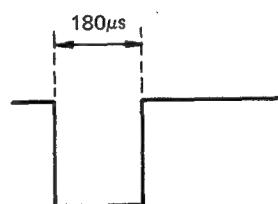

Figure 8-24.
3. Selecting (-) sync slope with the oscilloscope, adjust R2014 to meet the requirement given in Figure 8-24.